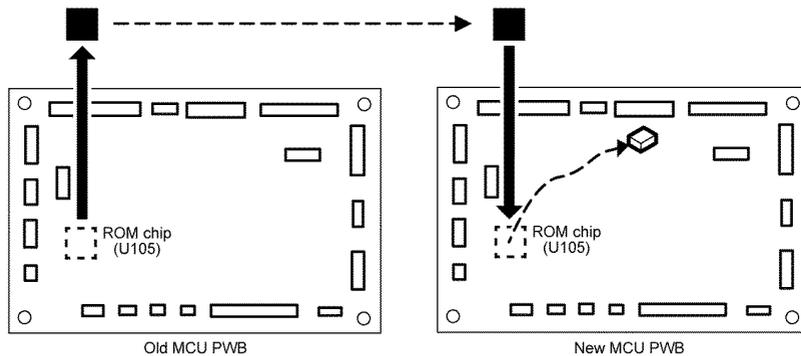

Figure 4 U105 ROM chip installation
2. If a new MCU PWB is to be installed, remove the U105 ROM chip from the old MCU PWB, then install it onto the new MCU PWB, Figure 4.